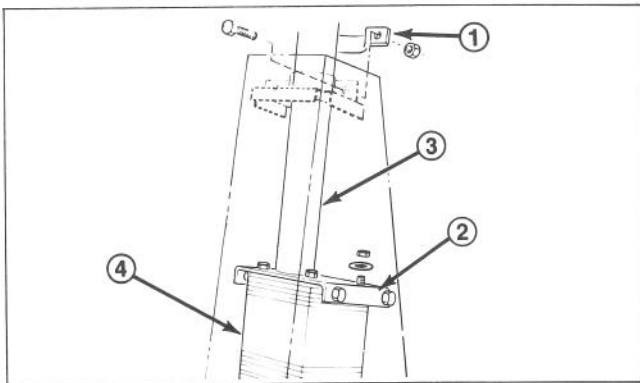

Figure 1
1. Loosen clamp half mounting screws securing steering post to tower (Fig. 1).
2. Slide steering post upward until valve mounting studs are positioned into mounting bracket (Fig. 1).
3. Secure valve to bracket with (4) locknuts (5/16 - 24) and (4) flatwashers (3/8 I.D. x 7/8 O.D.).